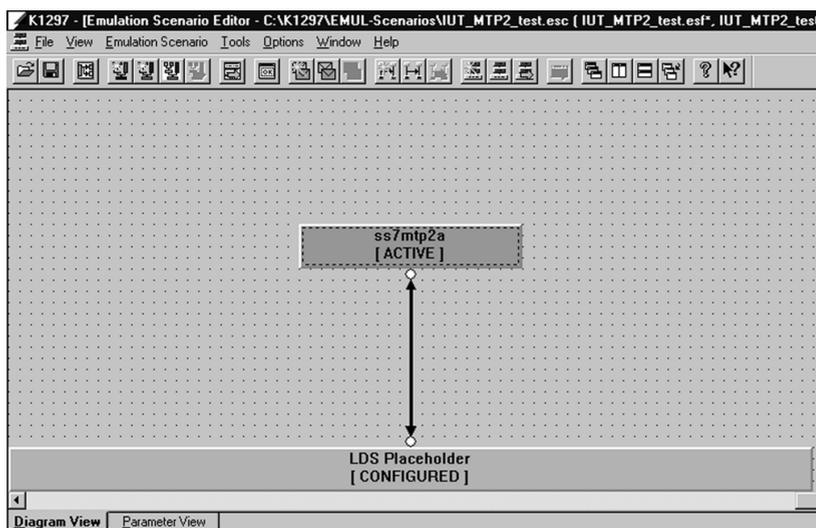

Figure 8: Emulation started and in the *ACTIVE* state
1. Change to *Diagram View* to check that the MTP layer 2 emulations of both branches have started and are in *ACTIVE* state (see figure 8). Refer to topic *Checking Emulation States* in the *Online Help* for further information.